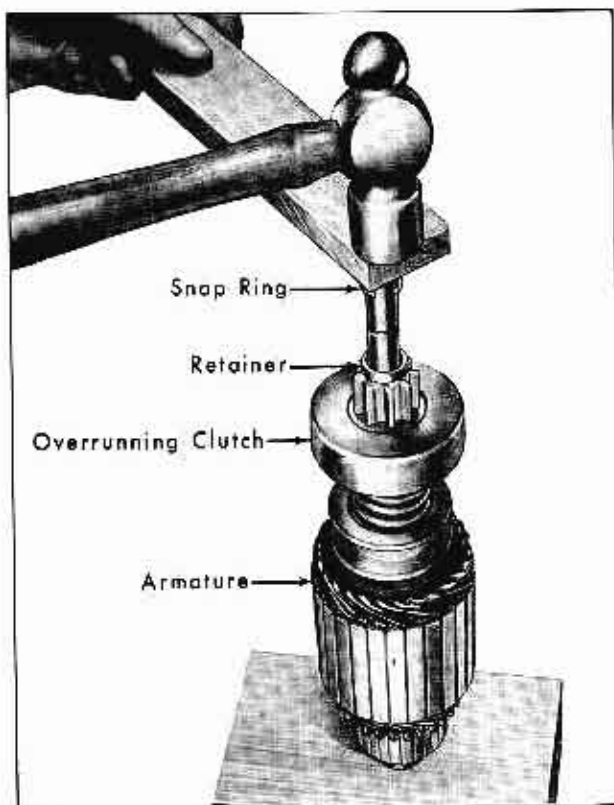

Fig. 11-33 Installing Snap Ring on Shaft
d. Stand armature on end of wood surface with commutator down. Position snap ring on upper end of shaft and hold in place with a block of wood. Hit wood block a blow with hammer, forcing snap ring over end of shaft. Slide snap ring down into groove by hand, Fig. 11-33.